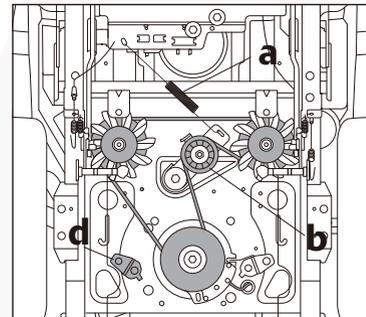

Fig. 27A
2. Remove the tension spring (a, Fig. 27A).
3. Remove the tension wheel (b, Fig. 27A).
5. Remove the mounting bracket from the electromagnetic clutch (d, Fig. 27A).